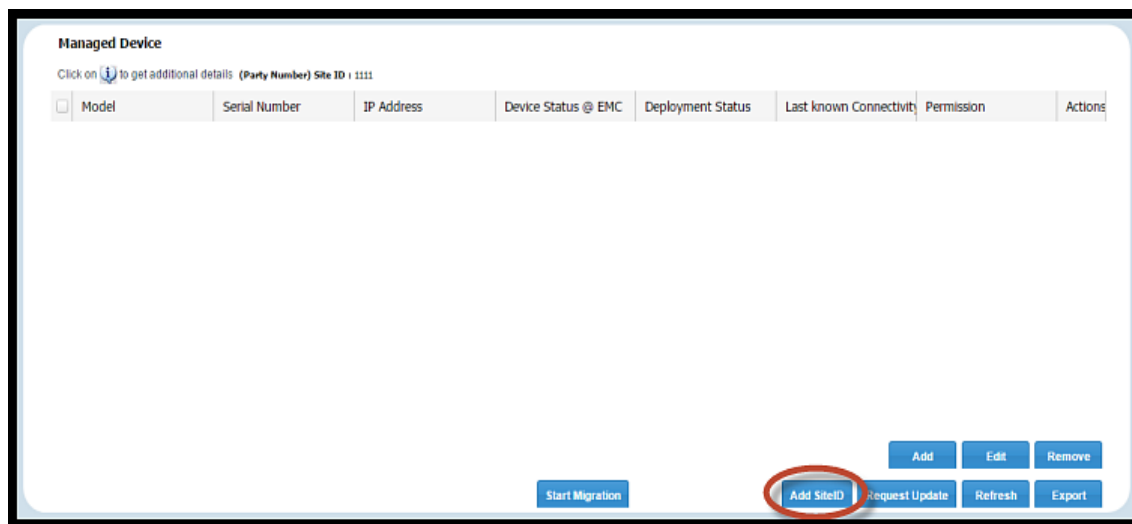

Figure 31 Adding Site ID
1. In the Manage Device page, select **Add Site ID**, as shown in Figure 31 on page 36. The SRS Site ID dialog box appears.